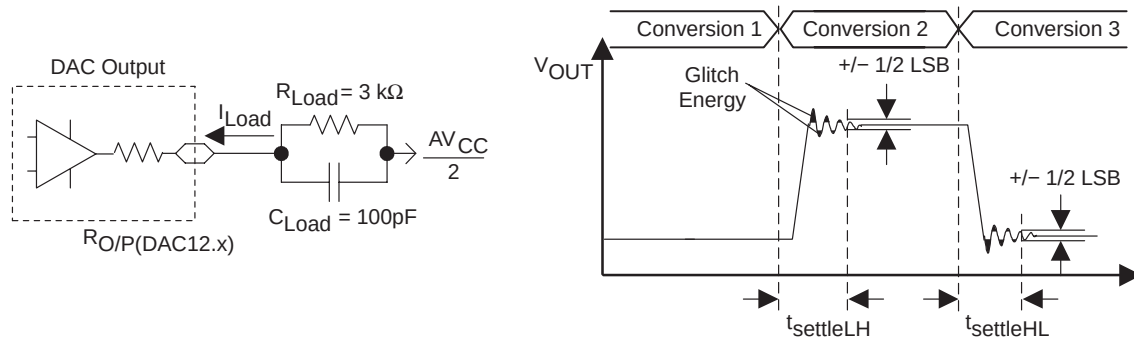
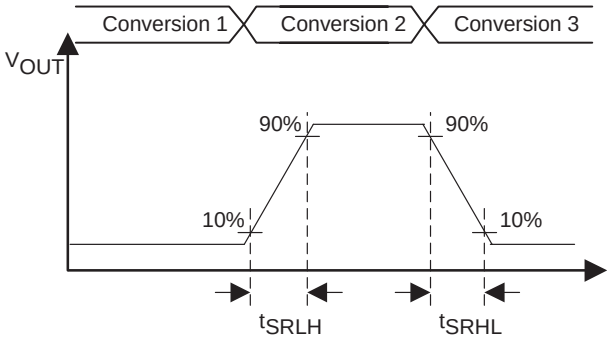

Figure 16. Settling Time and Glitch Energy Testing
Figure 17. Slew Rate Testing
12-bit DAC, dynamic specifications; V_{REF},DAC12 = AV_{CC}, DAC12IR = 1 (see Figure 16 and Figure 17)
- NOTES: 1. R_{Load} and C_{Load} connected to AV_{SS} (not AV_{CC}/2) in Figure 16.